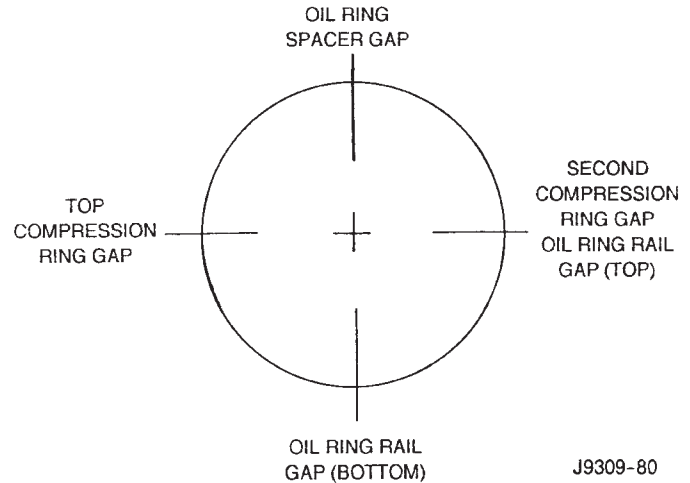

Fig. 37 Proper Ring Installation
- (1) Be sure that compression ring gaps are staggered so that neither is in-line with oil ring rail gap.
- (2) Before installing the ring compressor, make sure the oil ring expander ends are butted and the rail gaps located properly (Fig. 37).